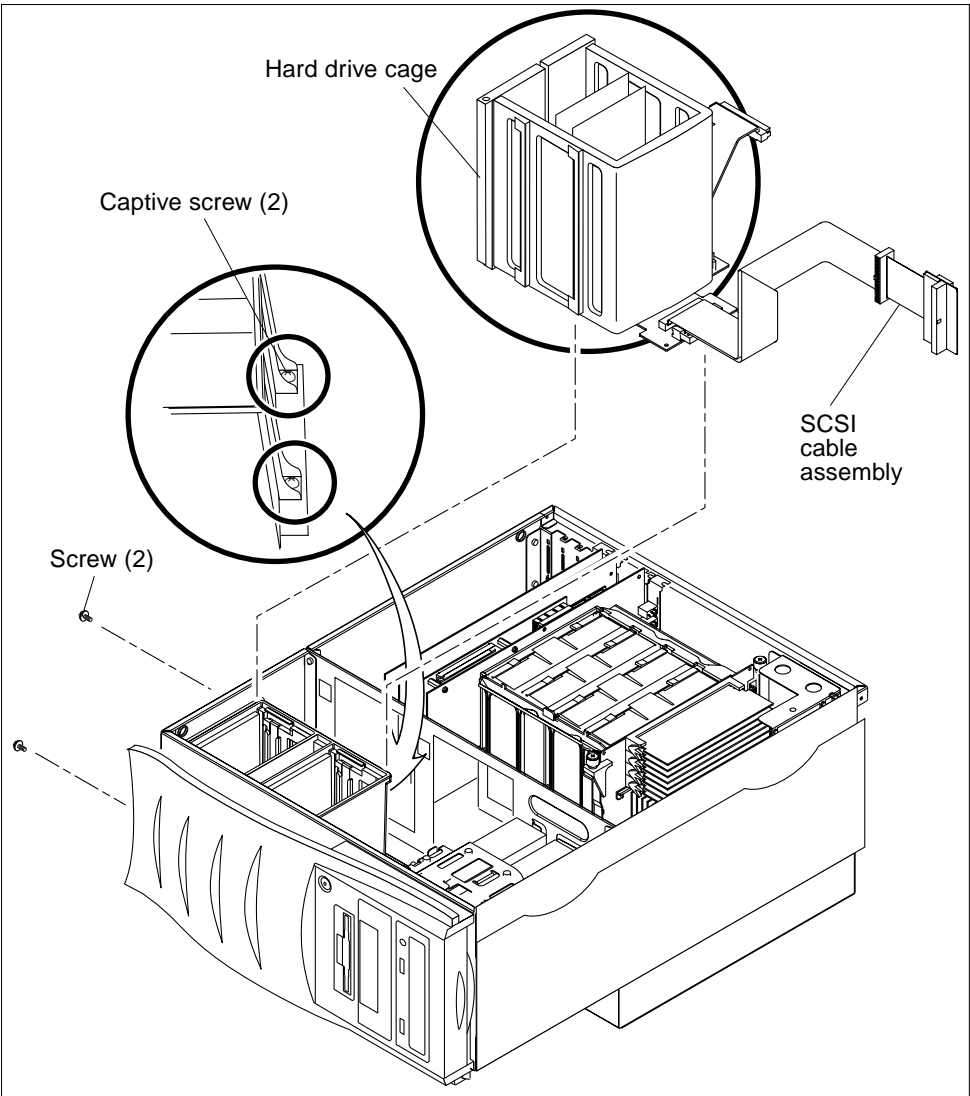

FIGURE 7-12 Removing and Replacing the Hard Drive Cage (Sheet 1 of 2)
- 9. Remove the hard drive cage as follows (FIGURE 7-12):**
2. **Replace the hard drive cage as follows (FIGURE 7-12):**